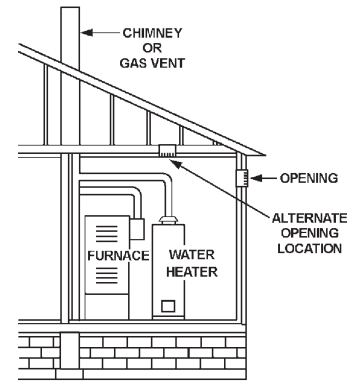

**FIGURE 7.**
**B. ALL AIR FROM OUTDOORS:** (See Figures 7 through 8C)
1. When directly communicating with the outdoors, each opening should have a minimum free area of 1 square inch per 4,000 Btu per hour (5.5 cm2/kW) of total input rating of all equipment in the enclosure, see Figure 7.